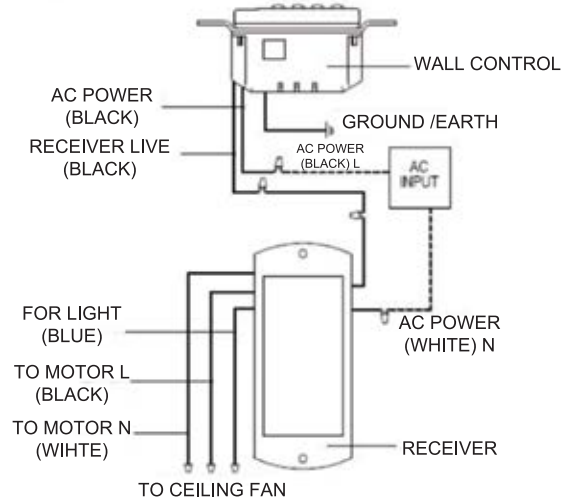

Fig. 15
- Step 2. Make the electrical connections as shown in Fig.15 . If your outlet box has a ground wire (Green or Bare Copper) connect the transmitter's ground wire directly to one of the screws from the outlet box. Secure all wire connections with the plastic wire nuts provides.